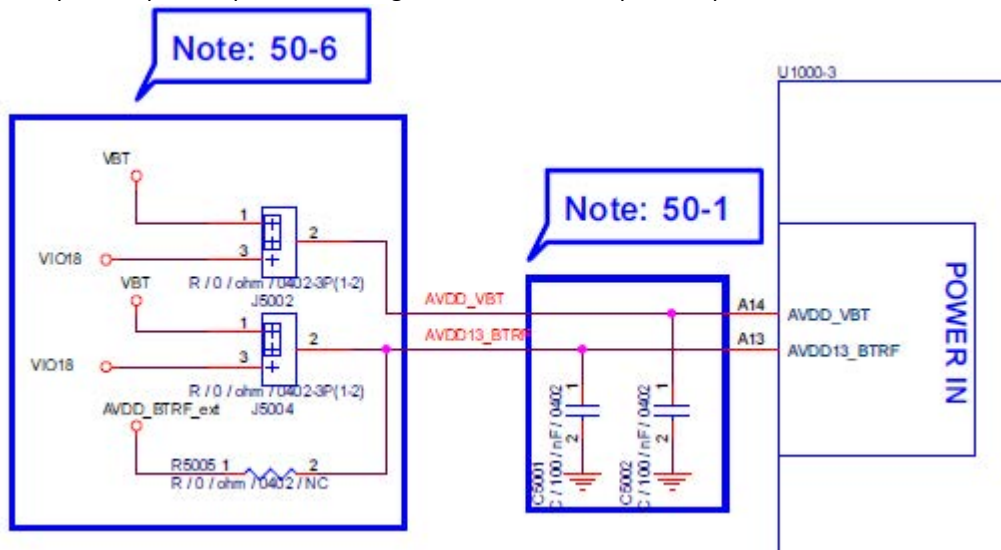

Figure 12. The decoupling capacitors for Bluetooth support
- 1) Make the decoupling capacitors C5001 and C5002 close to the IC as short as possible with enough ground vias. The power rail should be routed to the completed ground plane for noise reduction. It also cannot overlap with crystal oscillator's signals, 26MHz clock signal and other digital signal traces. Figure 12 shows